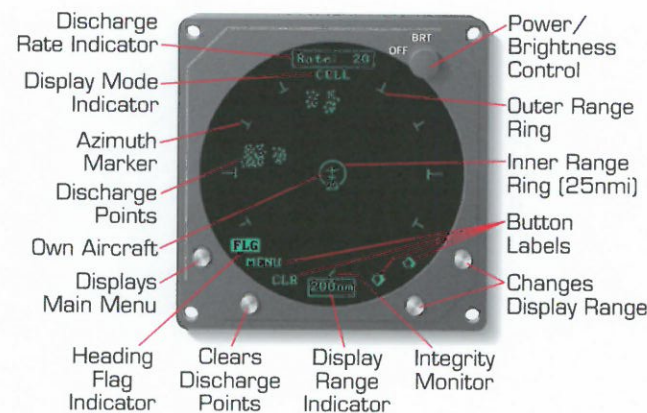

Figure 3-1. Controls & Screen Elements
Figure 3-1 and the following paragraphs describe the WX-950's controls and major screen elements.
1. From either of the two weather views (360° or 120°) press the MENU button. (See figure 3-1.)